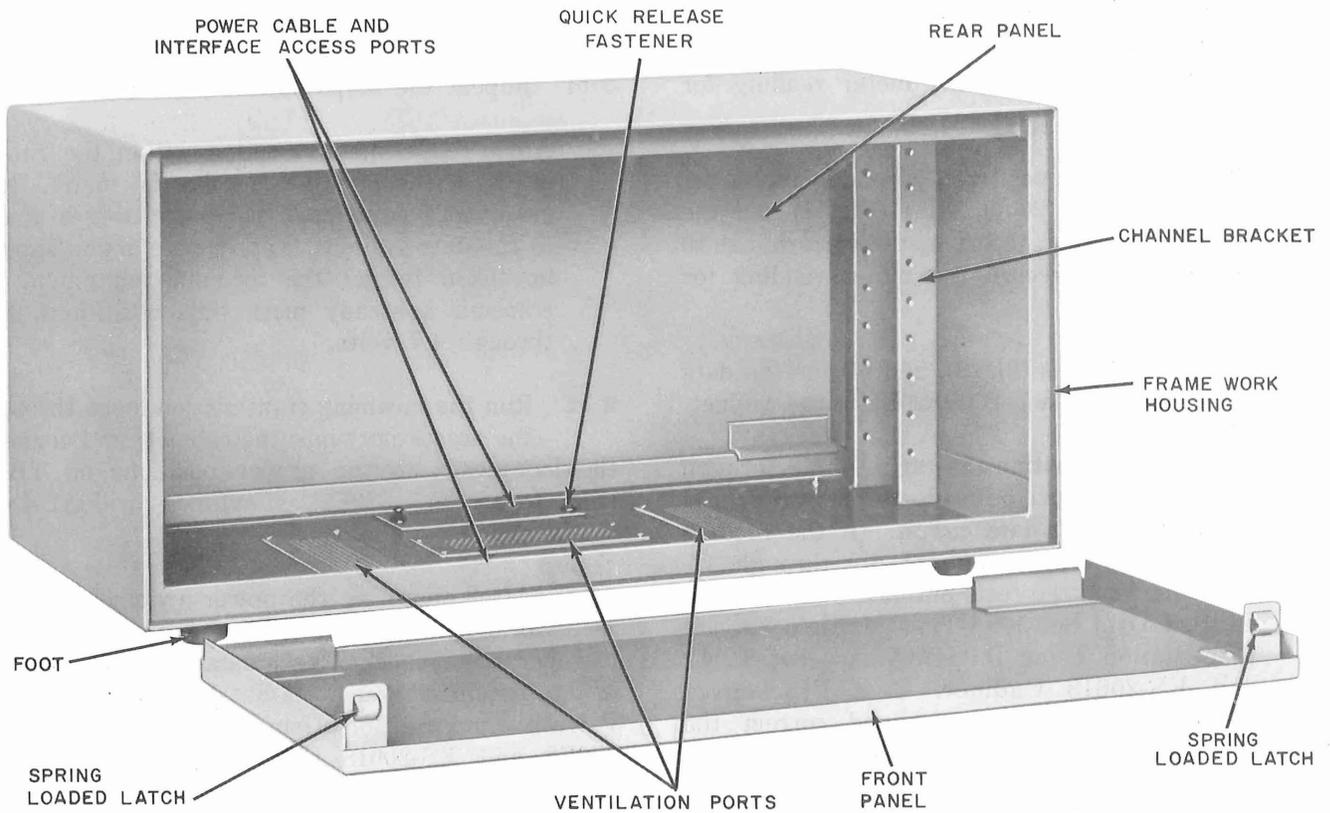

Fig. 6—KS-20018 L1 Cabinet, Front View
**3.03** After positioning the cabinet, remove the front and rear covers (Fig. 6) of the cabinet as outlined in Section 591-024-302. Then remove the front and rear access port covers (Fig. 6) by pulling them straight up.
- (a) If either a KS-20018 L1 or L2 Cabinet is used, the ac power cord of DAS 820E2 (Fig. 1) must be run out the rear access port (Fig. 6) of the cabinet and connected to an ac wall receptacle provided by the customer.